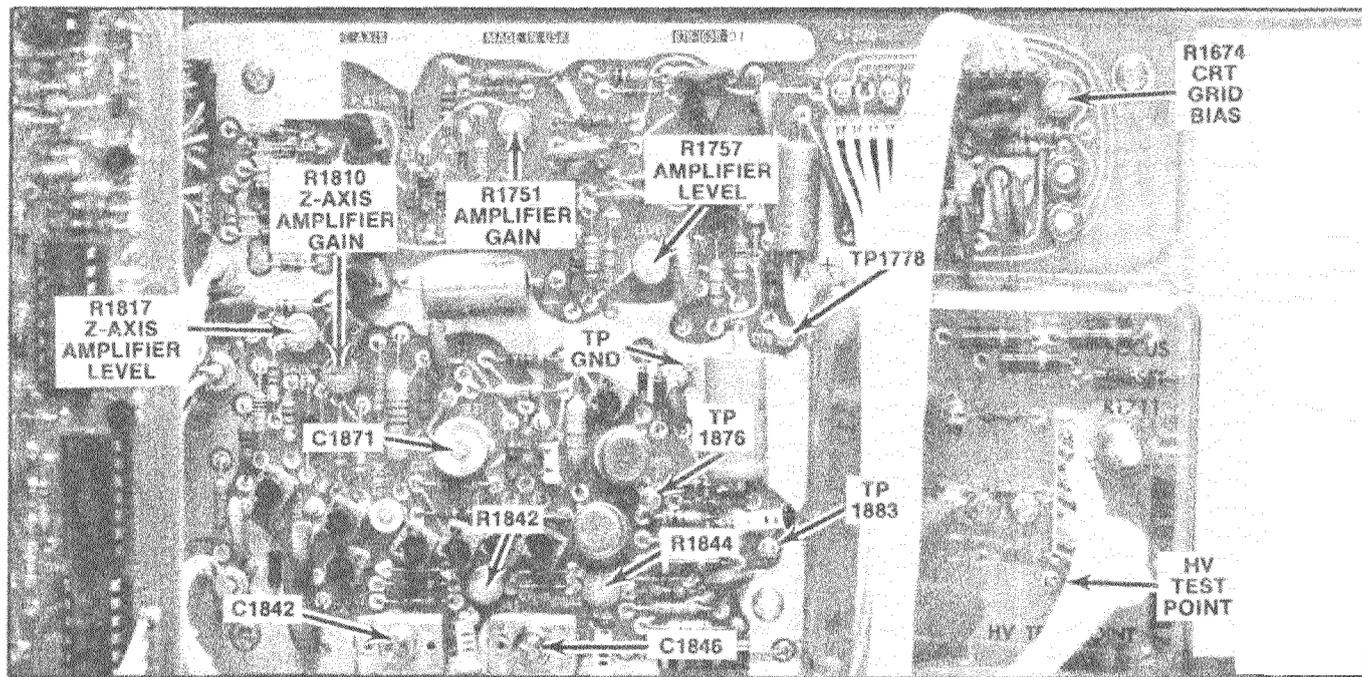

Fig. 5-2. Location of Z-Axis dc level and transient response adjustments and test points.
- Set the dc voltmeter (vom) to measure at least —3000 volts and connect it between the HV Test Point, and chassis ground. See Fig. 5-2 for test point location.
f. Connect the probe tip to TP1876; connect the probe ground to chassis ground with a short grounding strap. See Fig. 5-2 for location.
h. Adjust—Z-axis Amplifier Level, R1817, for a dc level of +9 volts (4.5 divisions above ground level). See Fig. 5-2 for adjustment location.
i. Connect the dc voltmeter (vom) between TP 1778 and chassis ground. See Fig. 5-2 for location.
k. Adjust—Focus Amplifier Level, R1757, for a meter reading of +123 volts. See Fig. 5-2 for adjustment location.
m. Adjust—Crt Grid Bias, R1674, so that the trace on the crt screen is just extinguished. See Fig. 5-2 for adjustment location.
r. Adjust—Z-Axis Amplifier Gain, R1810, for a pulse waveform peak amplitude of 74 volts above the ground reference level. See Fig. 5-2 for adjustment location.
b. Connect the test oscilloscope 10X probe tip to TP 1883; connect the probe ground to chassis ground TP located in the middle of the Z-Axis circuit board. See Fig. 5-2 for test point location.
f. Adjust—C1871 for flat top and R1842, C1842, R1844, and C1846 for optimum square corner on the displayed pulse (use low-capacitance screwdriver to adjust variable capacitors). See Fig. 5-2 for adjustment location.
h. Adjust—R1842 and C1842 for optimum square corner at 1.5 divisions of displayed pulse. See Fig. 5-2 for adjustment location.
j. Adjust—R1844 and C1846 for optimum square corner at five divisions of displayed pulse. See Fig. 5-2 for adjustment location.